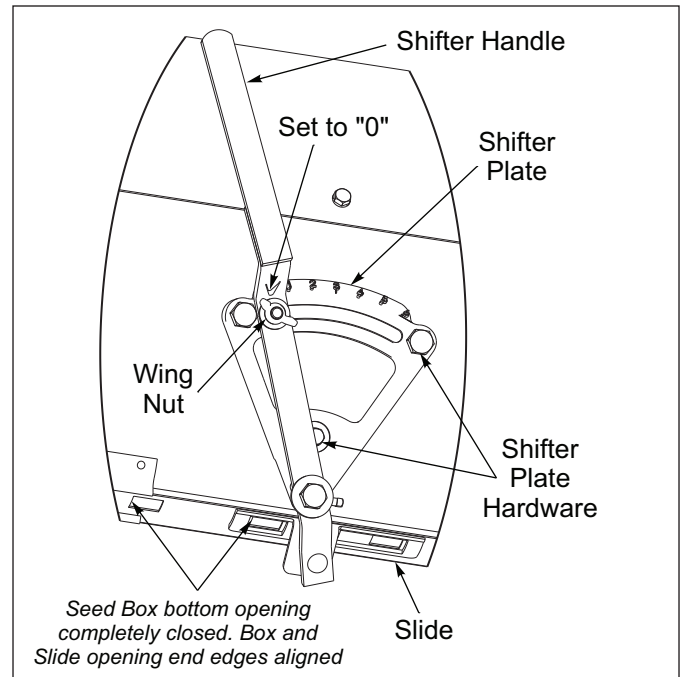

Figure 4-10: Shifter Handle Position at “0”
- Shift the Shifter Handle to “0”. The Agitator Box bottom opening should be fully closed. See Figure 4-10.